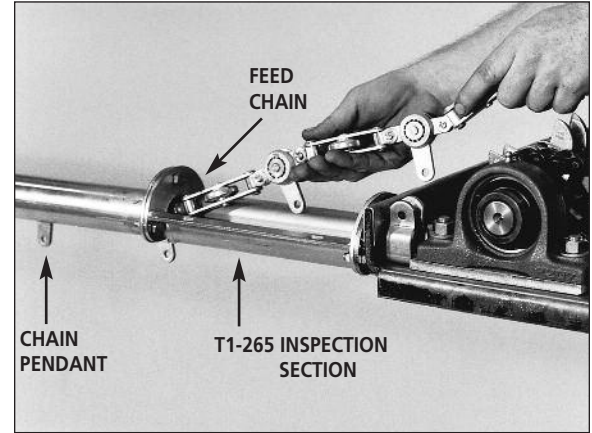

Figure 10
- Pull a 10 ft. section of chain through entire system to make sure the conveyor path is smooth (see **Figure 10**, Section 9 on Feeding Chain).
- Feed the chain into the track inspection section on the input end of the drive as shown in **Figure 10**. Attach a rope to the first chain pendant and pull while a second person feeds the chain into the inspection section.